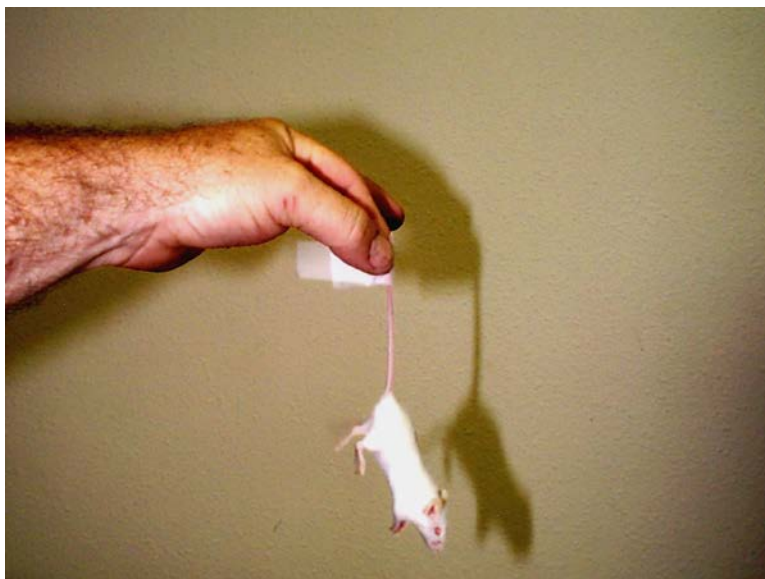

Figure 2-9. Applying Tape to the Tail of the Test Subject
1. This is the most important step to retrieving valid data. Suspend the subject from the tail using a piece of scotch tape as shown in Figure 2-9.